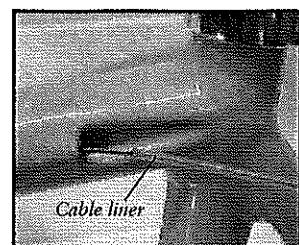

Fig. 21
4. As the cable exits the cable liner at the back of the tube, pull the liner out of the frame (Fig. 21). The liner just barely fits through the ferrules, so it may require you to apply some rotation or wiggling to pass it though a ferrule.